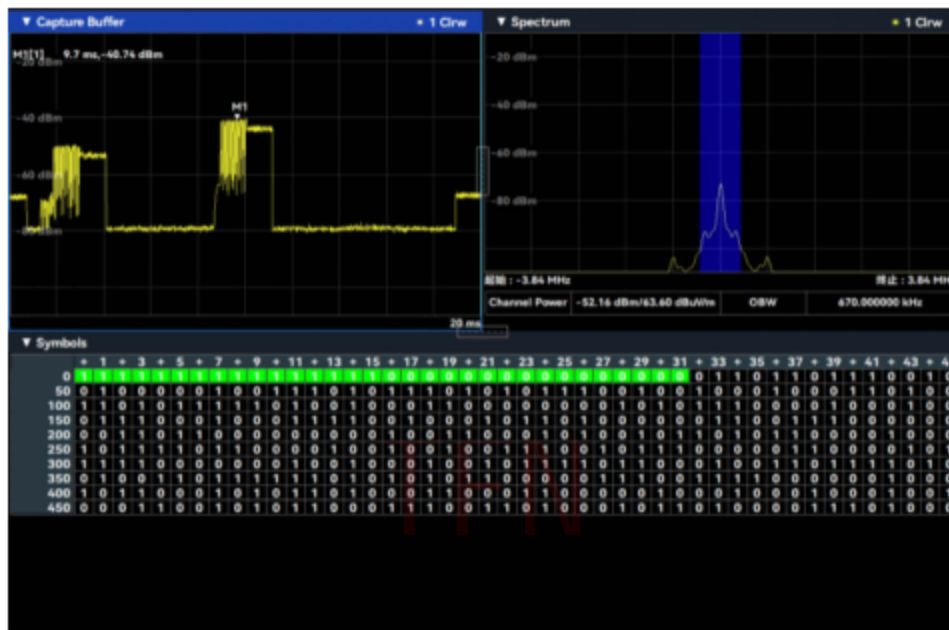

Figure 11.5 Measurement and configuration interface
- According to [ETC configuration], frequency 5.83GHz, antenna factor 2dB (determined by different antennas), as shown in Figure 11.5: